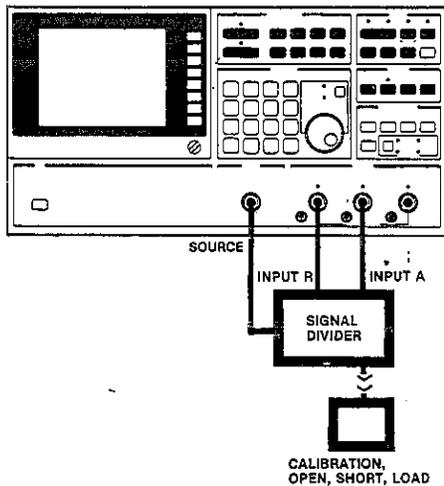

Figure 4. Reflection Calibration
**One Port Calibration.** The HP 35676A/B Reflection/Transmission Test Kit is calibrated for reflection measurements by using the internal one port full calibration function of the HP 3577A. The calibration function requires that a short, open, and reference load be attached in place of a test device during calibration. A complete description of the HP 3577A calibration procedure is in the HP 3577A Network Analyzer Operating Manual. Figure 4 and the following procedures describe calibration when the test device is attached directly to the signal divider test port: